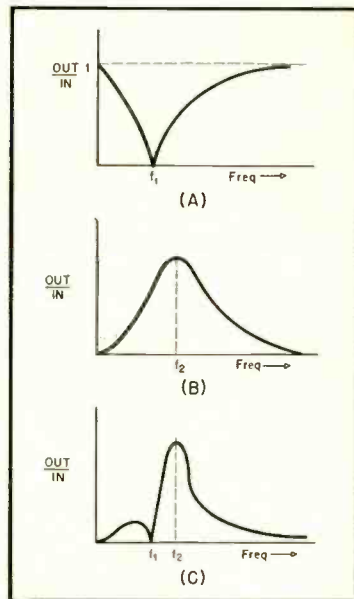
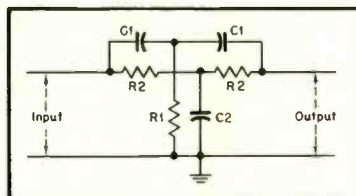
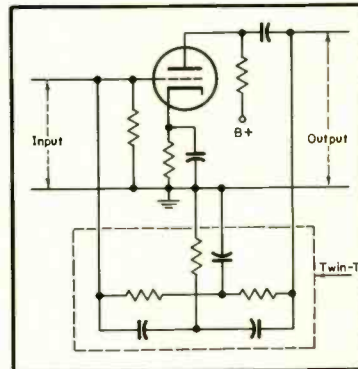

Fig. 2
Fig. 1
Fig. 3
**R**ESISTANCE-CAPACITANCE filters are generally considered inferior to LC filters in that their  $Q$  is low and it is usually impossible to attain sharp cutoffs or steep resonance curves. One of the better circuits for rejection of a single frequency is the twin-T, diagrammed in Fig. 1, often used in measurement work at radio frequencies and equally useful at a.f. It does completely reject one frequency but has fairly mild slopes, as the curve (A) of Fig. 2 shows.
The circuit of Fig. 3 is a negative feedback amplifier using the twin-T, often employed to pass a single frequency, since the twin-T in the feedback loop causes degeneration at all frequencies but that ( $f_2$ ) at which transmission through the twin-T is nil. The curve of response in this circuit is given at (B) in Fig. 2. Obviously, frequencies adjacent to  $f_2$  are not greatly attenuated. It is difficult to make a more selective circuit at audio frequencies—especially in the lower range—even with LC filters, because of core losses and low  $Q$ .
Charles E. Dolberg's Patent No. 2,495,511 shows an ingenious but quite simple method of combining the circuits of Fig. 1 and Fig. 3 to obtain a very sharply selective audio filter, so much so that in bridge measurements at 55 cps, for instance, it is possible effectively to exclude 60 cps from
Dolberg's basic circuit appears in Fig. 4. The input signal first passes through  $V_1$ . Between the  $V_1$  plate and the grid of  $V_2$  is a twin-T adjusted to reject completely a frequency  $f_1$  just below the frequency  $f_2$  which the designer wishes to pass through the entire system.  $V_2$  is a feedback amplifier similar to that of Fig. 3, adjusted for maximum transmission at  $f_2$ .
The result appears at (C) in Fig. 2 as the resultant of the curves (A) and (B). The twin-T between  $V_1$  and  $V_2$  gives the rejection (A) so that the lower side of the resultant curve is very steep, going to infinite attenuation at  $f_1$ .